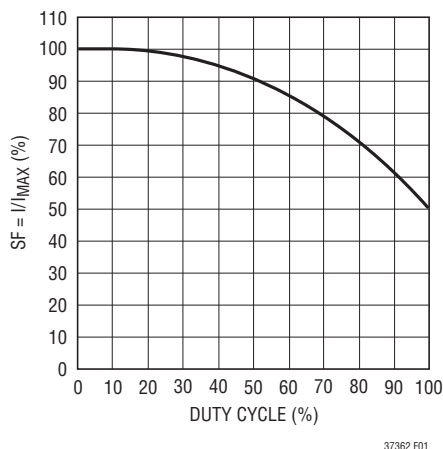

Figure 1. Maximum Peak Current vs Duty Cycle
**Note 6:** Peak current sense voltage is reduced dependent on duty cycle to a percentage of value as shown in Figure 1.
However, once the controller's duty cycle exceeds 20%, slope compensation begins and effectively reduces the peak sense voltage by a scale factor given by the curve in Figure 1.
where SF is a scale factor whose value is obtained from the curve in Figure 1.